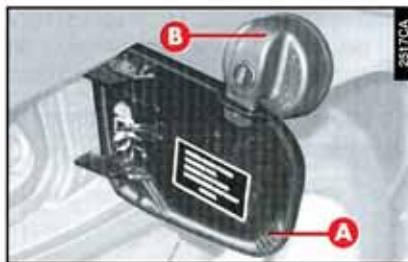

fig. 114
The fuel filler cap (B-fig. 114) is fitted with a key-lockable lock; access to it is gained opening the flap (A), then using the ignition key turn counter-clockwise and remove the cap.